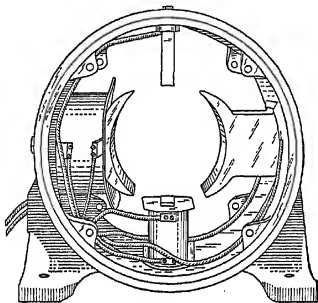

Fig. 204: Frame of two-pole generator with commutating poles.
**106. Commutating Poles.** In between the main poles, most modern machines have smaller poles called **commutating poles**. See Fig. 204. These poles are not to generate power in the armature, but merely to keep the brushes from sparking on heavy loads or high speeds. The coils on the poles are always in series with the armature, so that their strength depends upon the armature current. Due chiefly to these poles, motors are now built which will reverse at full speed and not spark at the brushes.